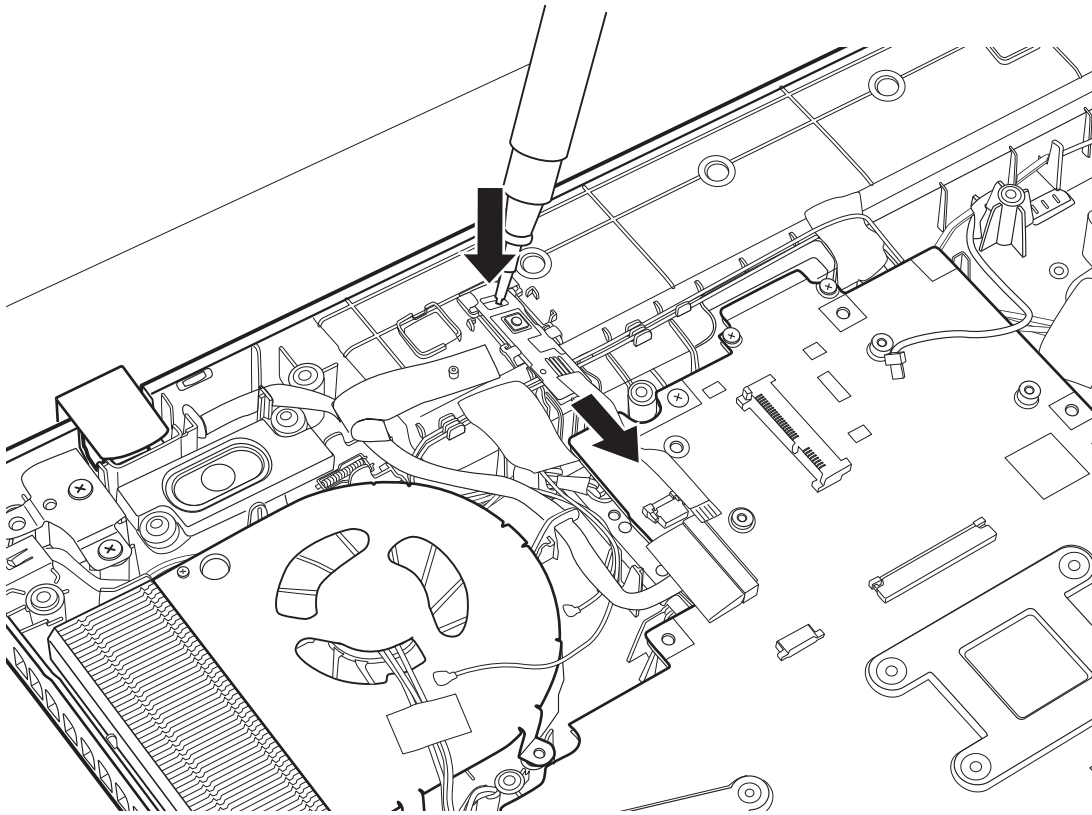

Figure 4.24 Removing the power board
2. Press down the catch with a small screwdriver as indicated in Figure 4.24, and slide the power board out of the socket.